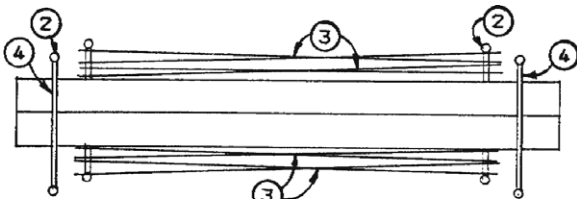

Fig. 35
- Once step six is completed for the whole area, distribute second and third lift components, leaning them against the erected base unit (Fig. 35 and 36). Second lift unit is composed of two frames, two cross braces, and four coupling pins. If there is a third lift, the unit is same as for the second lift.